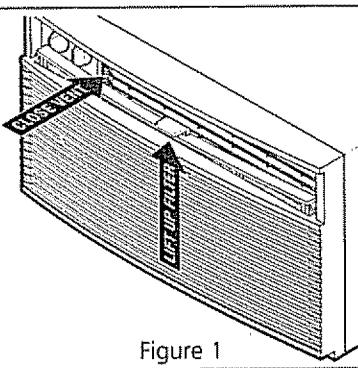

Figure 1
- Some models, push the vent control handle to the OFF position. Lift the filter straight up and out (Figure 1)